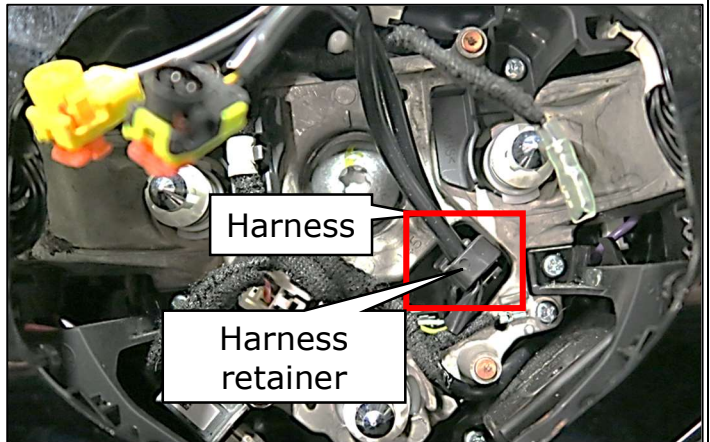

Figure 15
11. Remove the airbag harness connectors from the steering wheel harness retainers (Figure 15).